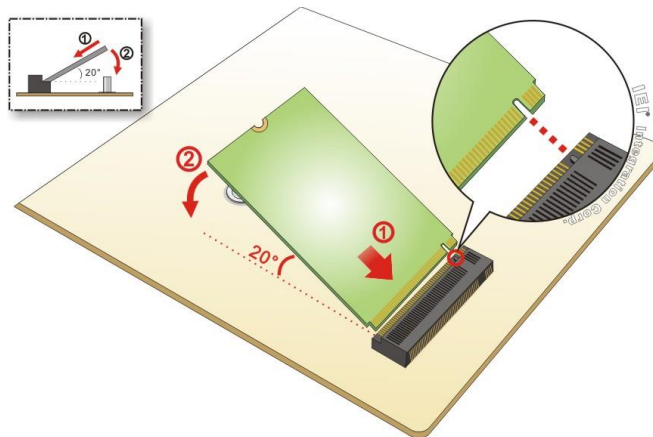

Figure 3-9: Inserting the M.2 Module into the Slot at an Angle
- Step 3:** Line up the notch on the module with the notch on the slot. Slide the M.2 module into the socket at an angle of about 20° (**Figure 3-9**).
Step 2: Line up the notch on the M.2 module with the notch on the slot. Slide the M.2 module into the socket at an angle of about 20°. (See **Figure 3-9**)